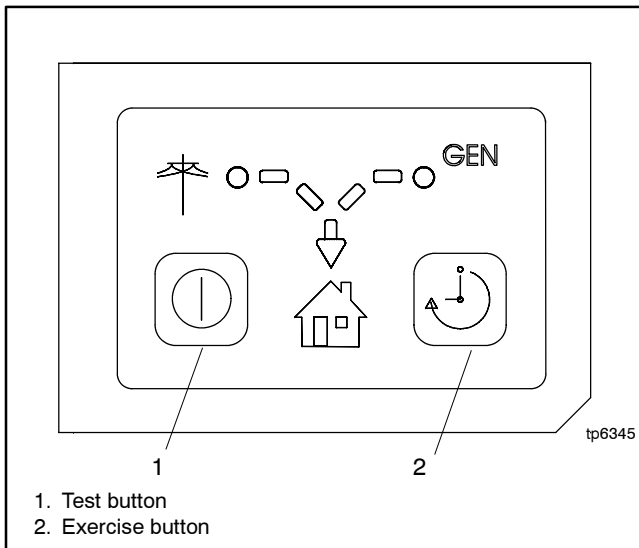

Figure 15 Series 500 ATS Controller
Use the Program Loader software to load the controller application program onto the Series 500 ATS controller, shown in Figure 15.
6. The program will prompt you to reset the target controller. Reset the transfer switch controller by holding both the Test and Exercise buttons for at least six (6) seconds. See Figure 15.
17. To start an exercise run and set the exercise time, press the Exercise button on the controller user interface. See Figure 15.